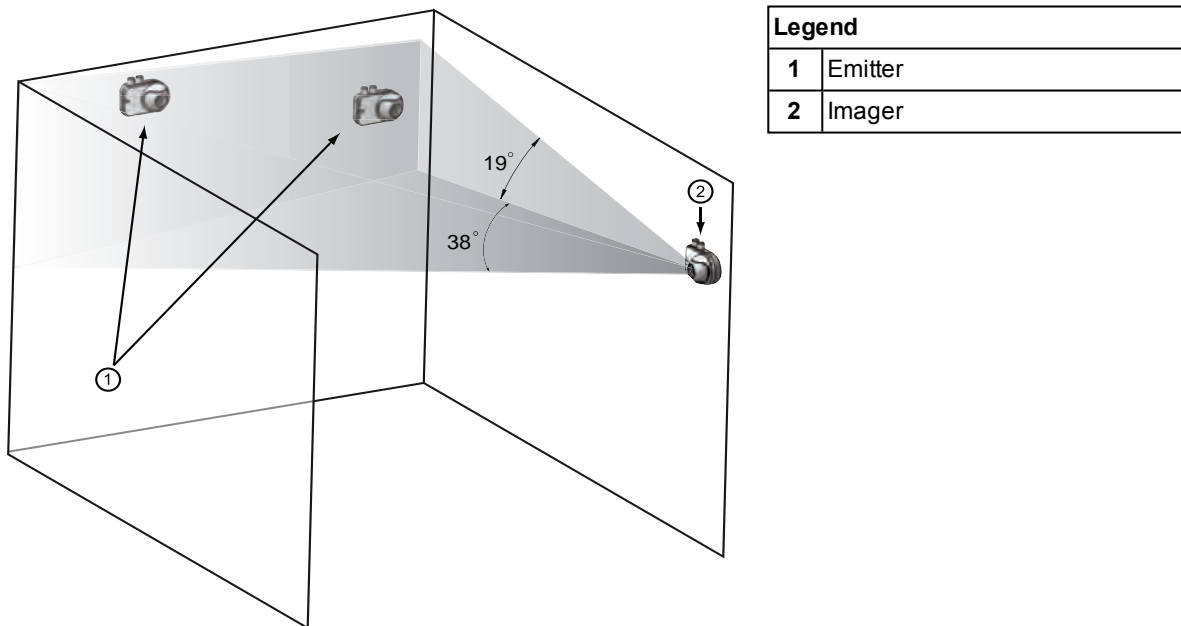
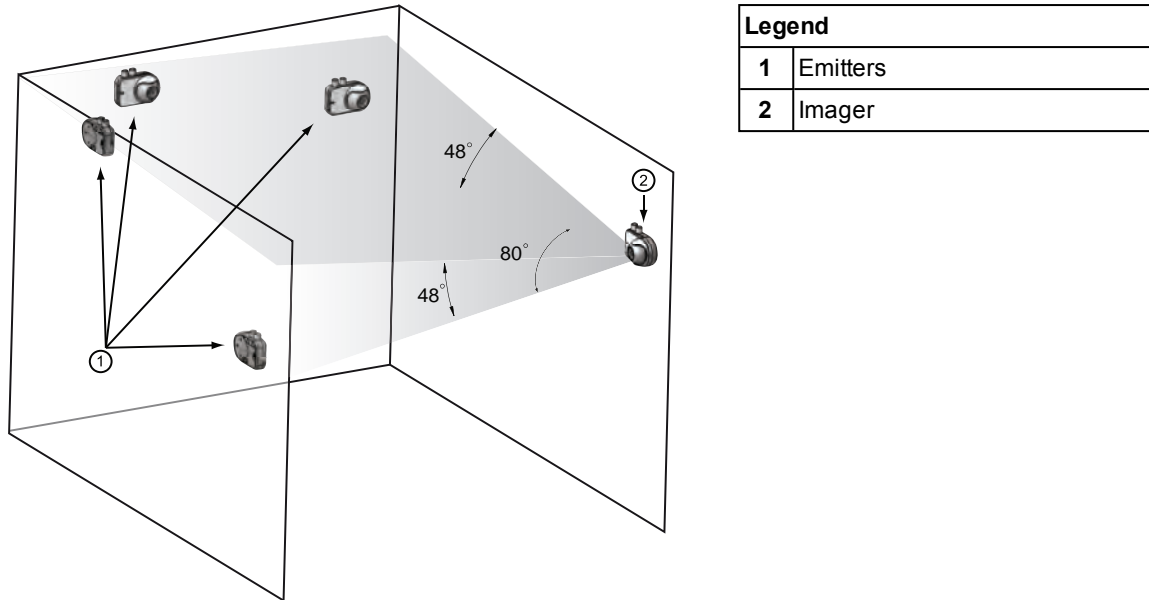

Figure 4-18: Alignment guidelines for the 45° Imager to Emitter
Figure 4-19: Alignment guidelines for the 90° Imager to Emitter
1. Switch ON and insert the appropriate laser alignment tool (1) into the alignment hole (2).
2. Use the laser tool to move the optical sphere (3) until the laser beam is pointing at a position in the gravitational center of all Emitters in the system as shown in Figure 4-18 and Figure 4-19.